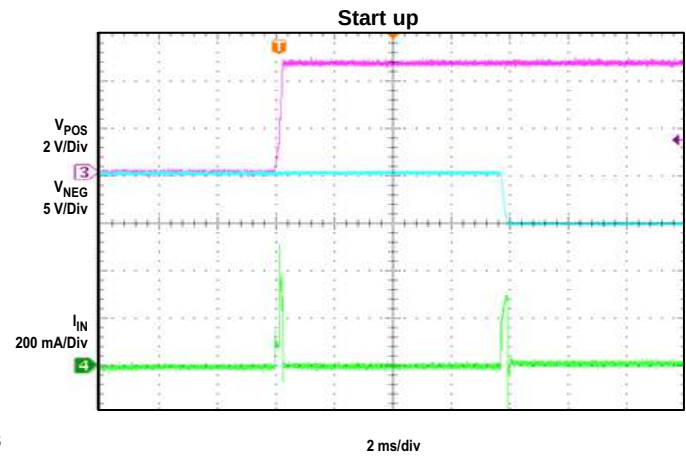
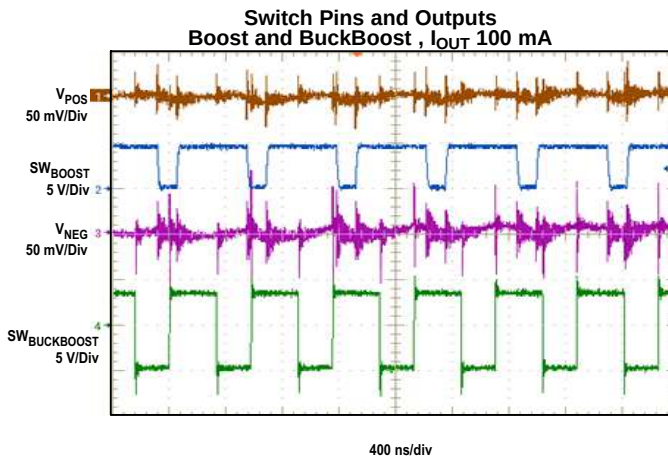
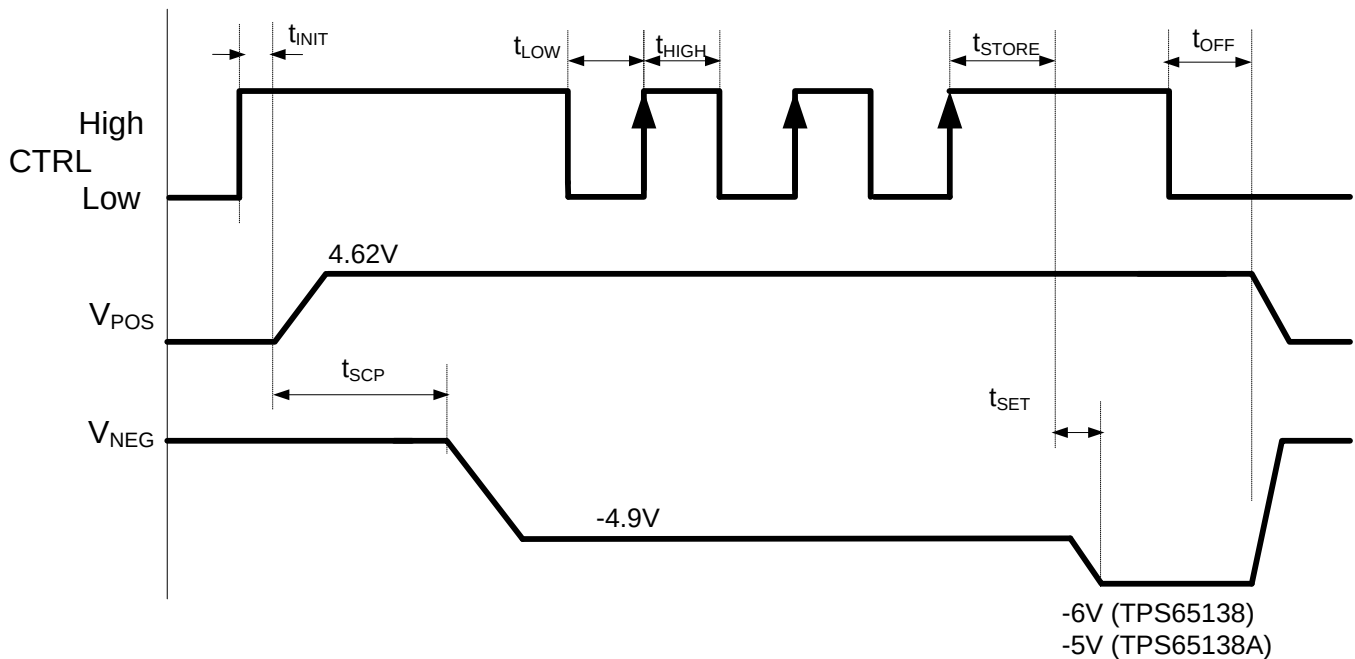
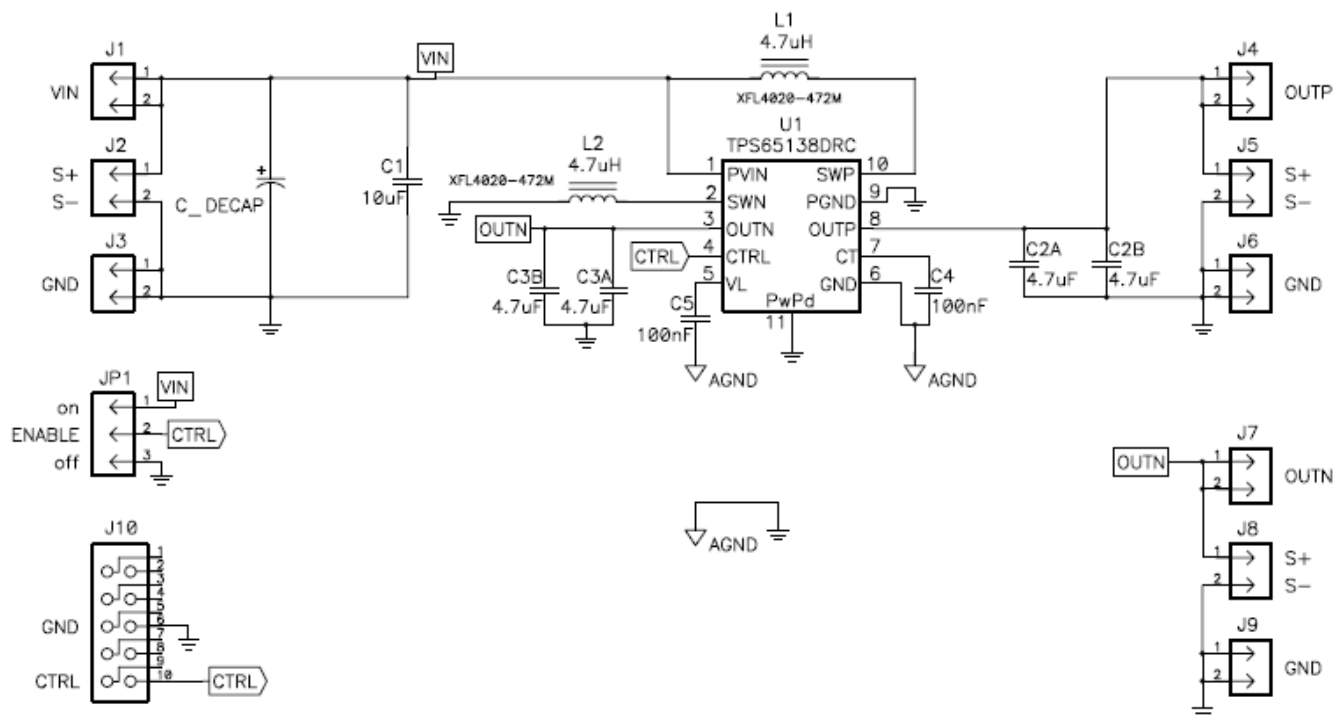

Figure 2.
Figure 3.
Figure 9. Digital Interface Using CTRL
Figure 12. Schematic of Board Layout Example
The digital interface allows programming the negative output voltage V_{NEG} in digital steps. If the digital output voltage setting is not required then the CTRL pin can also be used as a standard enable pin. The digital output voltage programming of V_{NEG} is implemented by a simple digital interface with the timing shown in Figure 9.
- Changed the TYPICAL CHARACTERISTICS. Deleted Figure 2, Figure 3, Figure 9 through Figure 12 7
- Changed Figure 9 10